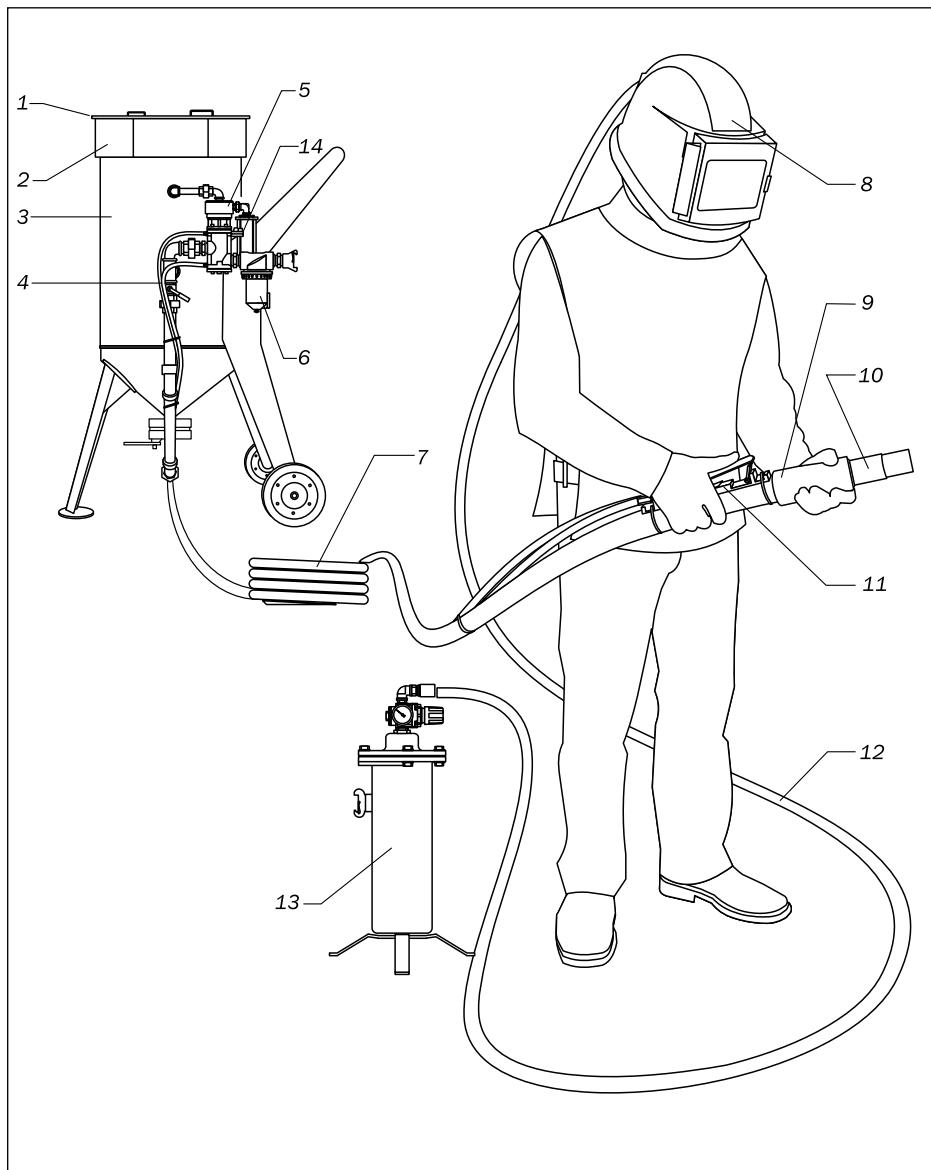

Fig. 2.1.
◀ Fig. 2.1.
10. Open the safety ball valve 14 (Fig.2.1).
**DURING A BREAK IN OPERATION ALWAYS OPEN SAFETY BALL VALVE 14 (Fig. 2.1) AT RC VALVE, OVER AGAINST THE BLUE LINE OF TWIN HOSE (TWINLINE).